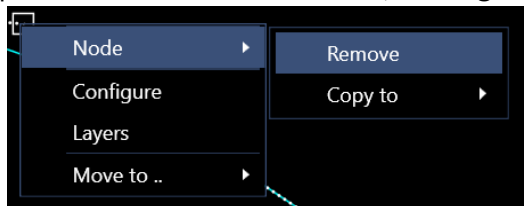

FIGURE 9-25 PIPELINES – MAP EDIT – REMOVE NODE POP-UP
- Right clicking on a node while in Editing Mode will display a context menu with a Remove Node option. Click this option to remove the node (See Figure 9-25)